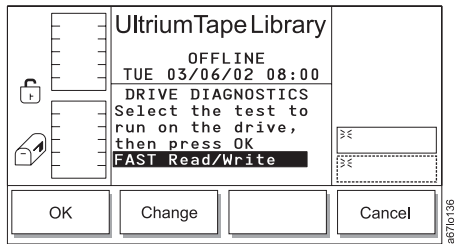

Figure 4-192. Drive Diagnostics Dialog
4. Press the button below the **Diags** softkey. The Drive Diagnostics Dialog displays the first of the six diagnostics that you can run on the specified drive (see Figure 4-192 on page 4-104). Each diagnostic is presented one at a time.